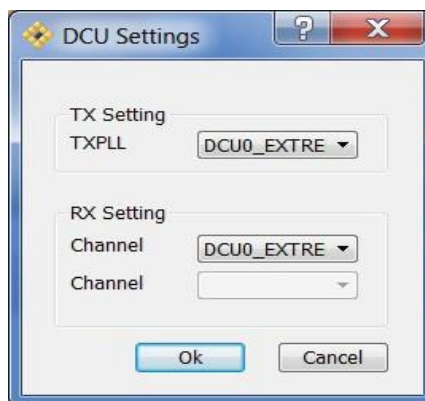

Figure 4.11. Clarity Designer DCU Settings
- After placing both PCI express endpoint core and extref instances, double-click the selected channel placement user interface. This opens a pop up DCU settings window as shown in Figure 4.11.